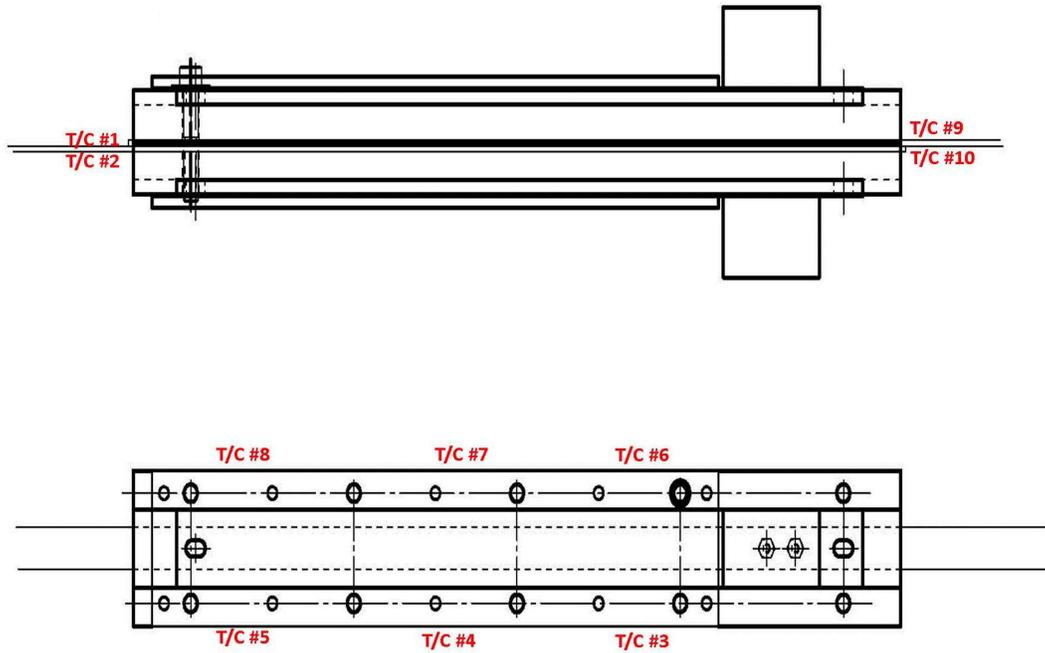

Figure 7: Thermocouple positioning schematic
5. Attach all the thermocouples for the monitoring of the temperatures along the soldering fixture (see Figure 7 and 8 for reference) and turn the monitoring temperature controller on. Assure proper readout by first reading the ambient temperatures thereafter the six temperatures of the thermocouple points along the fixture shall closely follow a gradual increase. Note that the heated part of the soldering fixture is on the opposite side of the power cables connection.